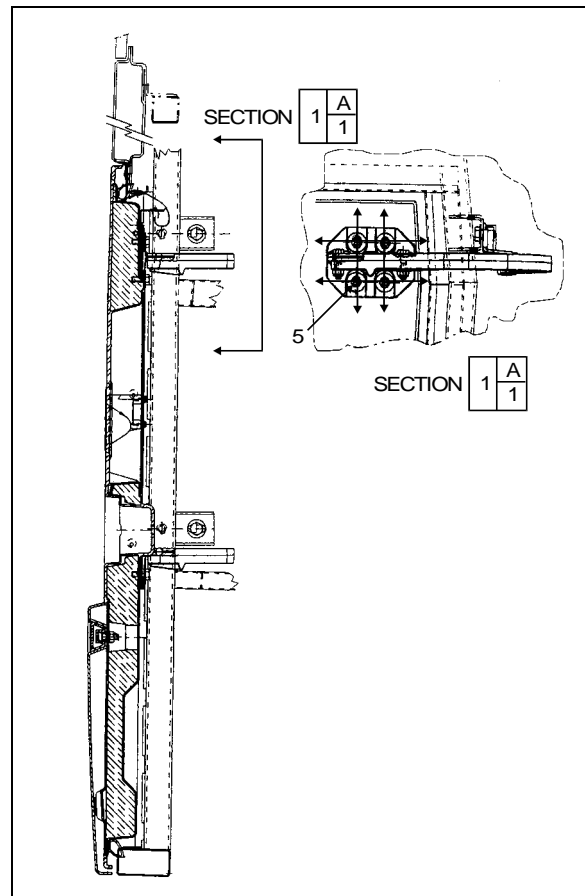

FIGURE 79: FRONT SERVICE DOOR
7. Loosen screws (5, Fig. 79) to allow the door to be shifted "UP or DOWN".